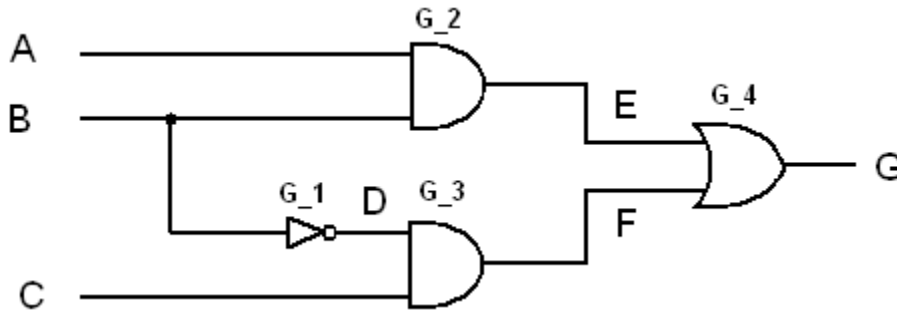

Figure 1: example_mux
- Just like any design for use in TetraMAX, write your HDL code, source properly, parse the design, compile it in **design_vision** using gtech libraries, and save it as an hdl file. Figure 1 shows an example circuit that implements a mux, and the Verilog code that can be used with the gtech library.
- Manually write two path delay files in textual format (.txt), one for robust tests and the other for non-robust tests. In each file, have rising and falling transitions for all the paths in the circuit. For example if you have four paths in the circuit (see Figure 1), you would need to write a total of 16 paths, 8 robust paths (4 rising and 4 falling paths), and 8 nonrobust paths (4 rising and 4 falling paths).
- A sample of 8 robust paths for the circuit in Figure 1 is provided at the end of this document. Each path consists of a name, and the rising (or falling) transitions on the path (from a primary input to primary output using the net information you captured in the previous step). Rising transitions are